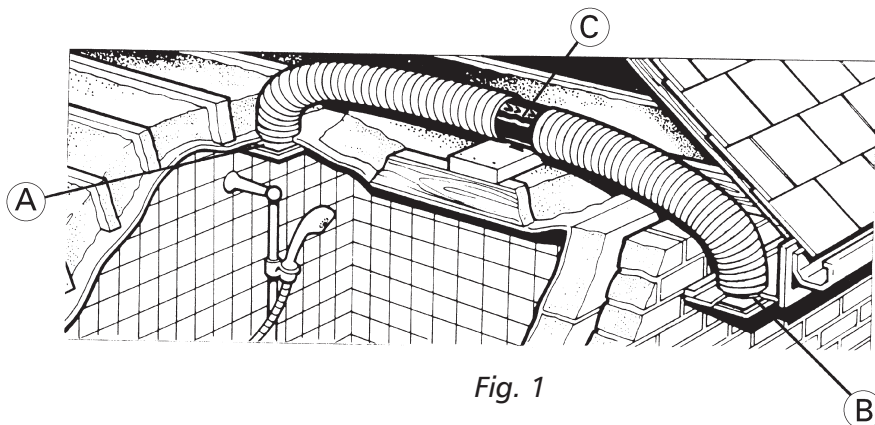

Fig. 1
- The appliance shall be installed according to the attached graphic documentation (see fig. 1 and 2)
- Loosen the 2 screws (D) and lift the flanges (E). Take the casing assembly (F) out of its housing.
- Place the bracket + openings (G) in the place where you want to install the extractor (wall or ceiling) and mark the holes (H).
- Join the suction (A) and expulsion (B) conduits to the nozzles (I) by flanges or resistant adhesive tape
- • Replace the casing (F) in its housing in such a way that the air circulation direction indicated by the arrows (J) and the cable outlet direction are as desired.
- Close the flanges (E) and tighten the screws (D)